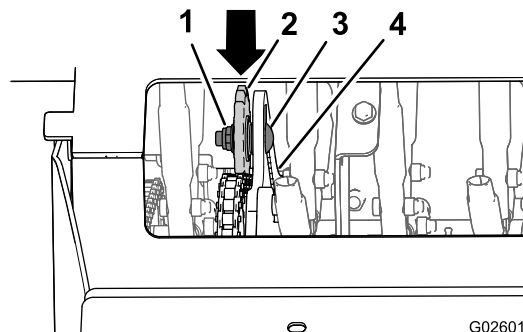

Figure 63
4. Loosen the locknut and carriage bolt that secure the idler sprocket (Figure 63).
- Push down and forward on the sprocket to increase the chain tension as shown in Figure 63.